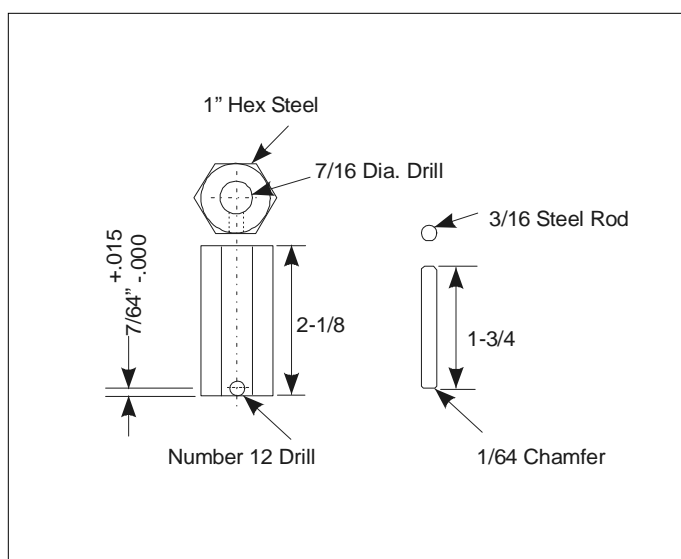

Figure 2 - Holding Fixture (Dwg. R-42-1)
In addition to the regular shop tools, a holding fixture for disassembling and assembling the exhaust valve unit **MUST BE** available to the repairman. Dimensions and specifications for making this fixture are shown in Figure 2.
- a. Using the holding fixture shown on Figure 2, insert the dumbbell end of the inlet and exhaust valve into the holding fixture so that the cross drill in the holding fixture aligns with the cross drill in the tapered end of the inlet valve seat.